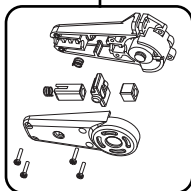

Fig.14
- Then remove the top cover, take care as parts may fall out (as shown in fig.14).